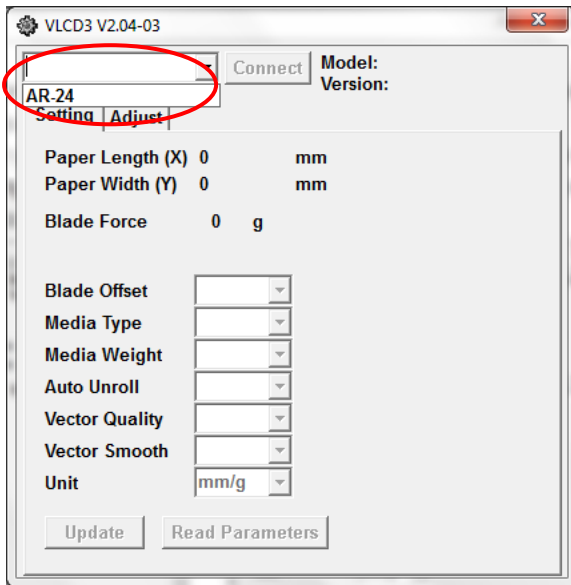

Figure 3-2
Step 3 Choose the correct port setting that is used for connecting the cutter to your computer (Figure 3-2).